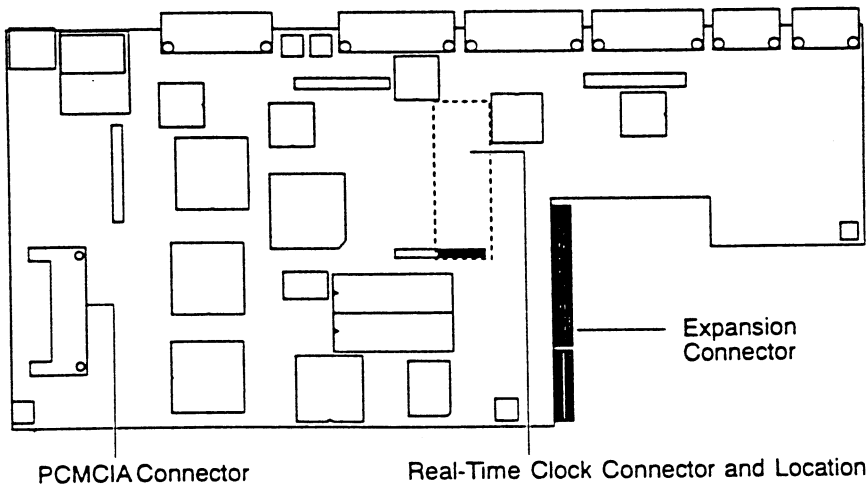

Figure 3-4. Real-Time Clock
2. Figure 3-4 shows you the location of the RTC 22-pin connector on the motherboard. It is not necessary to remove the motherboard shield to insert the RTC. Figure 3-4 simply gives you a clear picture of the location of the RTC on the motherboard.